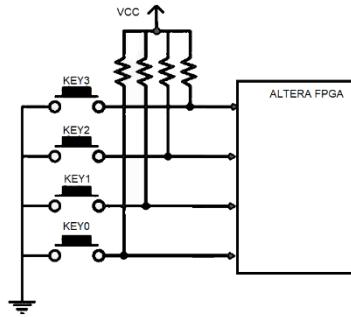

Figure 47: FPGA development board buttons used to operate the stopwatch.
Figure 47 shows the schematic of the buttons (key1 ... key4) on the C5G development board that you will use to control the operation of the stopwatch; the S1 and S2 buttons in Figure 46. The buttons shown in the schematic are in their nominal position – not being pressed by a user. You should note that the contacts of each button (open circles) are disconnected. This leaves the right side of the button connected to VCC through a resistor as well as the Altera FPGA. This resistor is called a pull-up resistor, and as its name implies, pulls the voltage on the right side of the push button up to VCC – logic 1. When a button is pressed, the contacts are connected and the right side of the push button is connected directly to ground, forcing the voltage on the respective FPGA pin to logic 0.
To summarize the operation of the buttons shown in Figure 47. When a user presses a button, the value on the respective FPGA pin is logic 0. When a button is not pressed, the logic level of the corresponding FPGA pin is logic 1.